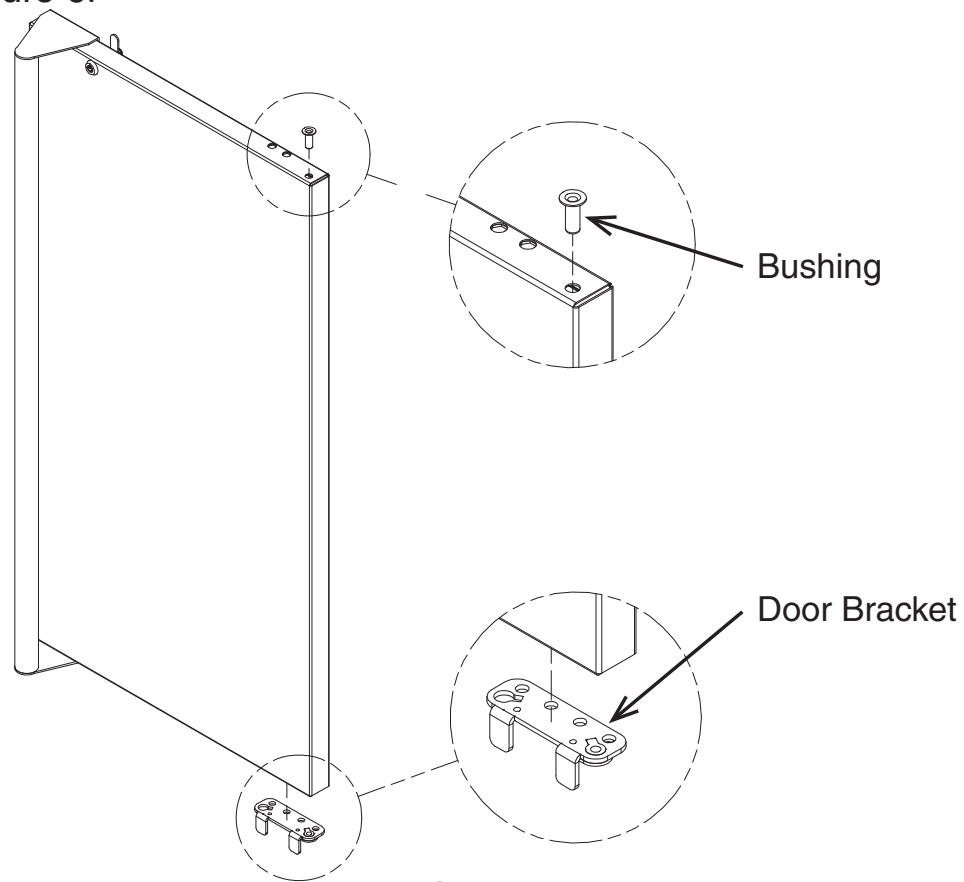

FIG. 6
**Step 4.** Remove the Bushing and the Door Bracket from the door. See figure 6.